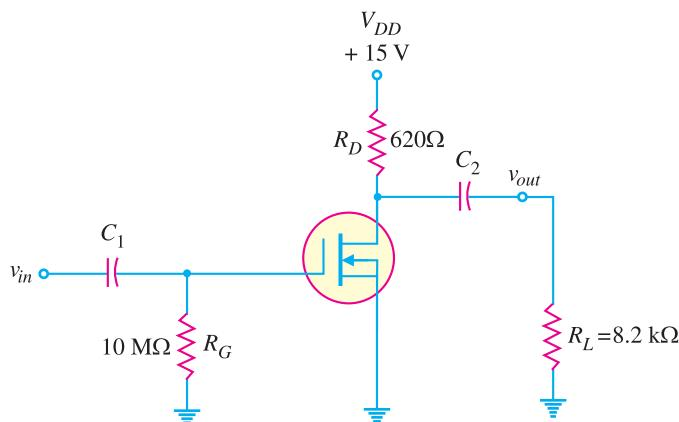

Fig. 19.54
**Example 19.33.** The *D-MOSFET* used in the amplifier of Fig. 19.54 has an  $I_{DSS} = 12 \text{ mA}$  and  $g_m = 3.2 \text{ mS}$ . Determine (i) d.c. drain-to-source voltage  $V_{DS}$  and (ii) a.c. output voltage. Given  $v_{in} = 500 \text{ mV}$ .